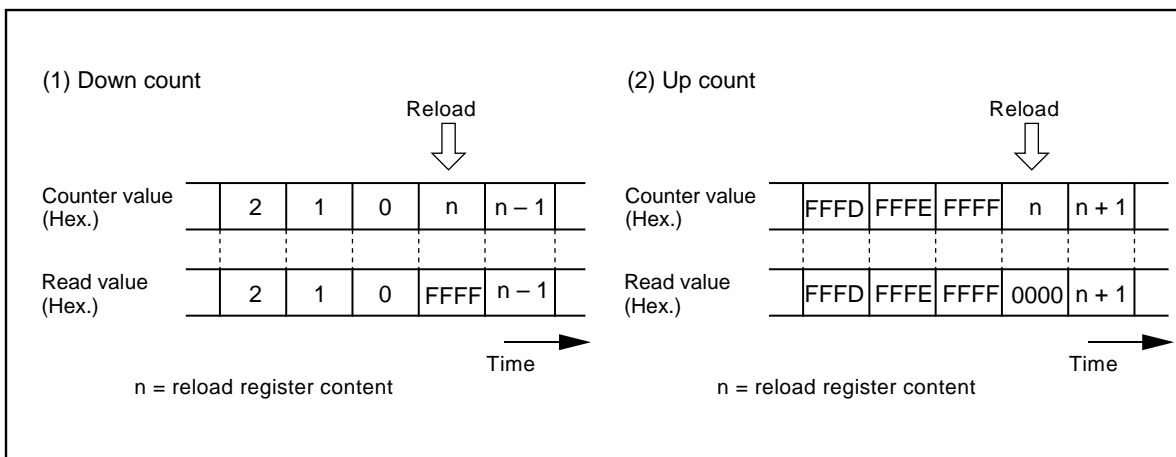

Figure 2.2.29. Reading timer Ai register
- (1) To clear reset, the count start flag is set to “0”. Set a value in the timer Ai register, then set the flag to “1”.
- (2) Reading the timer Ai register while a count is in progress allows reading, with arbitrary timing, the value of the counter. Reading the timer Ai register with the reload timing shown in Figure 2.2.29 gets “FFFF16” by underflow or “000016” by overflow. Reading the timer Ai register after setting a value in the timer Ai register with a count halted but before the counter starts counting gets a proper value.